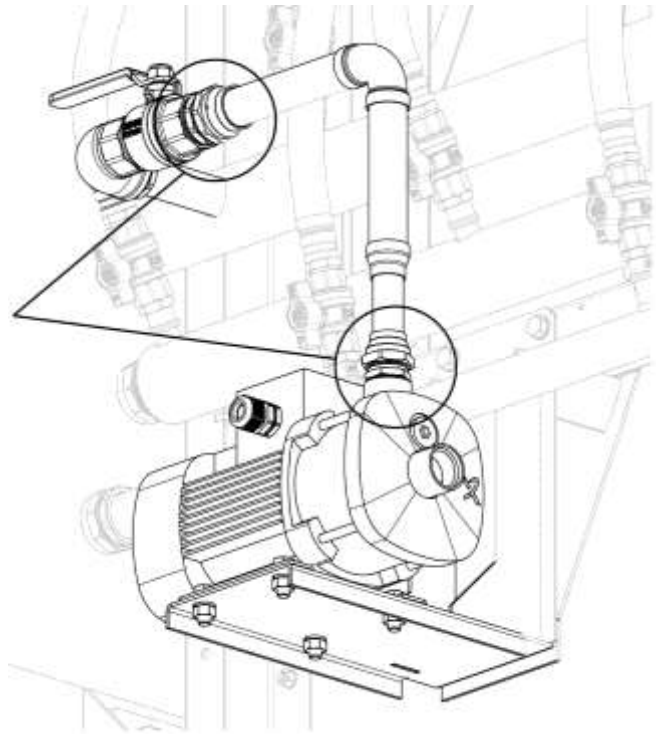

Figure 3
5. For multiple frame systems, disconnect the pump from the cold manifold at the points shown in Fig. 3 and unbolt the water and gas manifolds from the frame (Note relative positions for reassembly).
6. If required, remove the pump by first removing the wiring from the pump and unscrewing the 4 bolts holding it to the bracket. A restricted electrical licence (minimum) will be required if the pump is to be disconnected from the frame and later re-assembled. Refer to Fig 3.